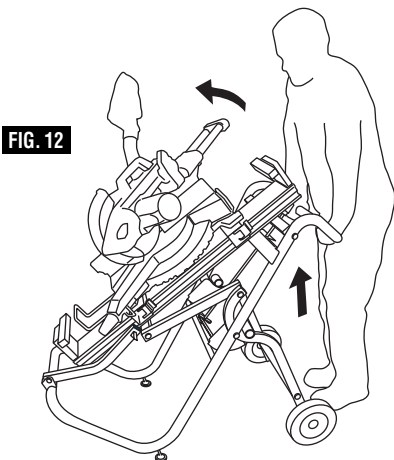
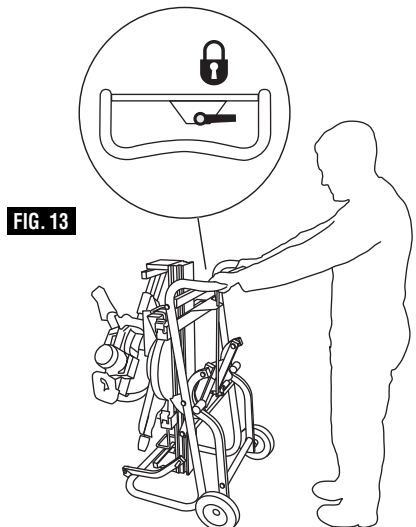

FIG. 12
FIG. 13
3. With both hands on the handle, pull up and push forward on the stand, figure 12, until it locks in the upright position, figure 13.